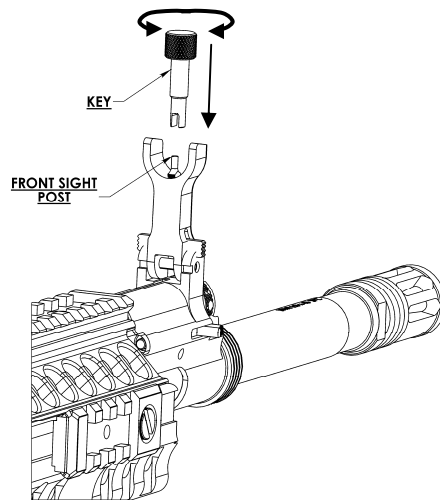

Figure 27.
3. To increase elevation (raise point of impact of bullet), insert key and turn clockwise. (Figure 27).
4. To decrease elevation (lower point of impact of bullet), insert key and turn counterclockwise. Once rear sight is zeroed, front sight post should not be moved. (Figure 27).